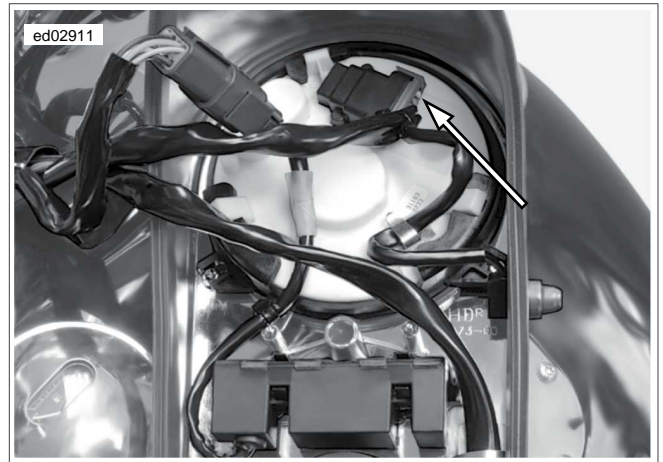

Figure 2-9. Speedometer Connector [39]
1. See Figure 2-9. Bend back the external latches slightly and remove connector [39B].